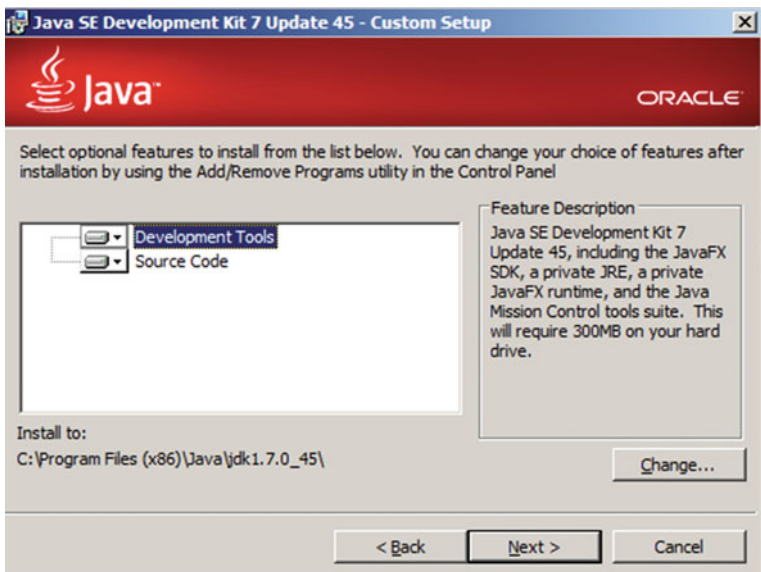

Figure 1-4. Step 2 of the JDK installation
2. Install the JAVA JDK to the path `C:\Program Files (x86)\Java\jdk1.7.0_45`, choose all components, and click the *Next* button, as illustrated in Figure 1-4. It will then install JDK components that you chose.